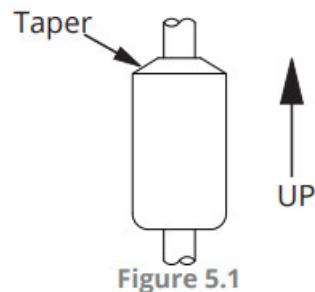

Figure 5.1
- The float(s) is/are oriented properly on the stem (See Figure 5.1 below). MPXI-F floats are installed by the customer.
- The slide floats onto the stem. If using two floats, slide the lighter float on first. Tops of floats will be indicated by sticker, taper, or etching on the float. (See Figure 5.1) After ensuring the top of the float is toward the MPXI-F sensor head, remove the sticker(s).